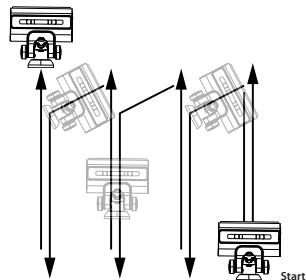

Fig 10
3. To achieve an effective cleaning pattern, move the Wet and Dry Vacuum forward, angle it slightly to the side, and pull it back along the new path to form a consistent ladder-like motion across the floor (Fig 10).